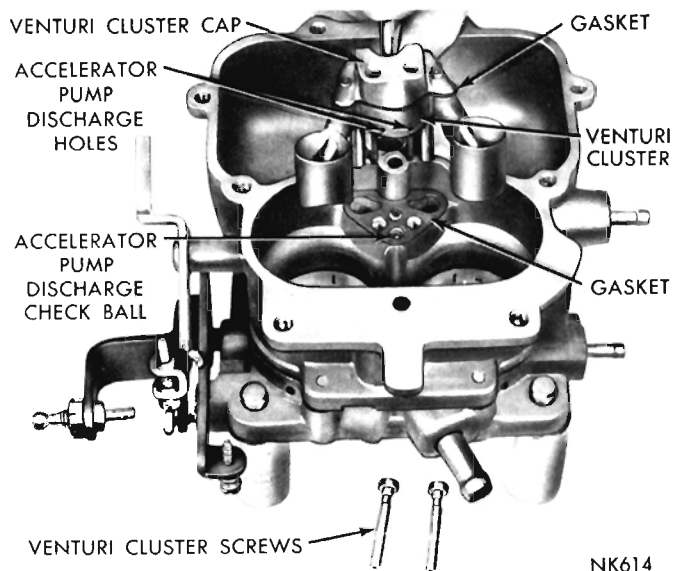

Fig. 4—Removing or Installing the Venturi Cluster
(13) Remove the venturi cluster screws, then lift the venturi cluster and gaskets up and away from the main body, as shown in (Fig. 4). Discard the gaskets.